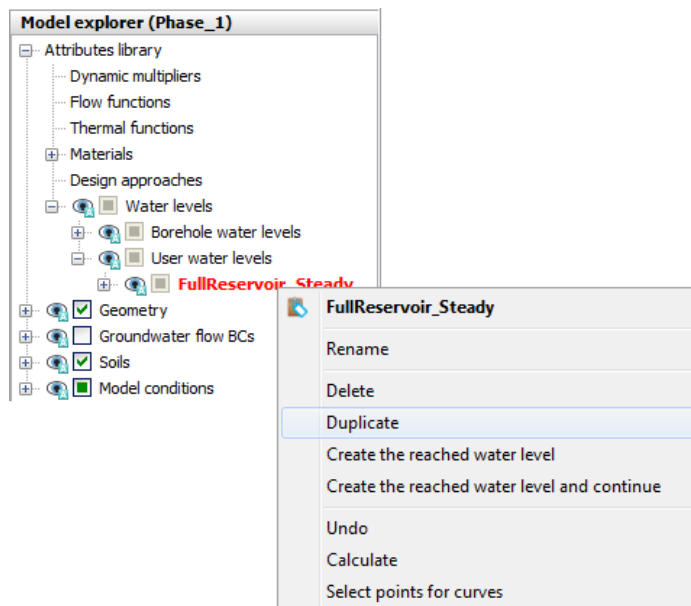

Figure 8.7 Copying water levels in *Model explorer*
- Due to the global nature of the water levels, if an attribute is assigned to a water level in the model it will affect it in all phases. The water level in this phase has the same geometry with the one previously defined, however it is time dependent and a function needs to be assigned to it. As a result, it is required to create a new water level with the same geometry and different attributes. In *Model explorer* right-click on *FullReservoir\_Steady* and select the *Duplicate* option in the appearing menu (Figure 8.7). A copy of the water level is created.